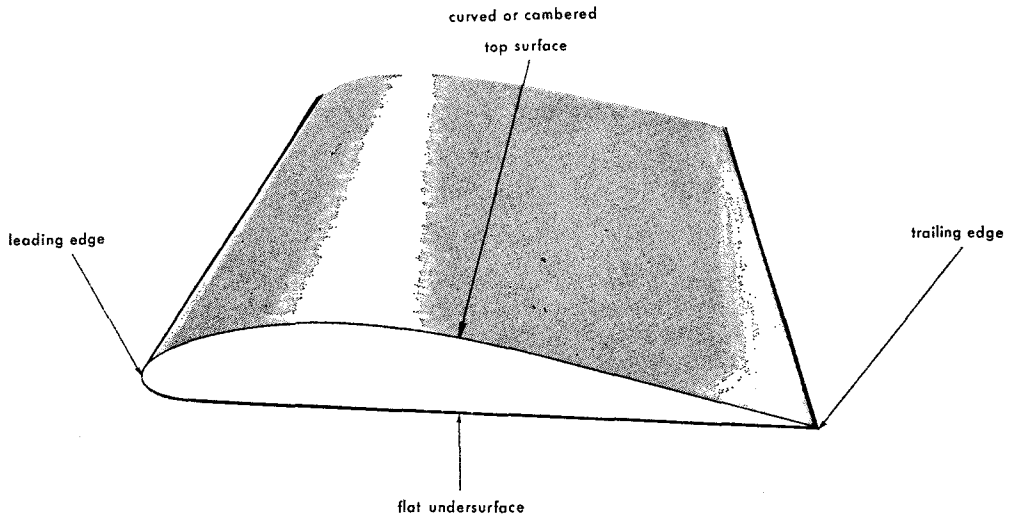

Fig 2 The aerofoil
3. Both lift and thrust can be produced by the effect of air moving over a shape called an 'aerofoil' (Fig 2). To produce the 'lift' necessary for flight the large fixed wings of a conventional aircraft are, in section, of aerofoil shape. Propeller blades and the rotor blades of a helicopter are revolving aerofoils.